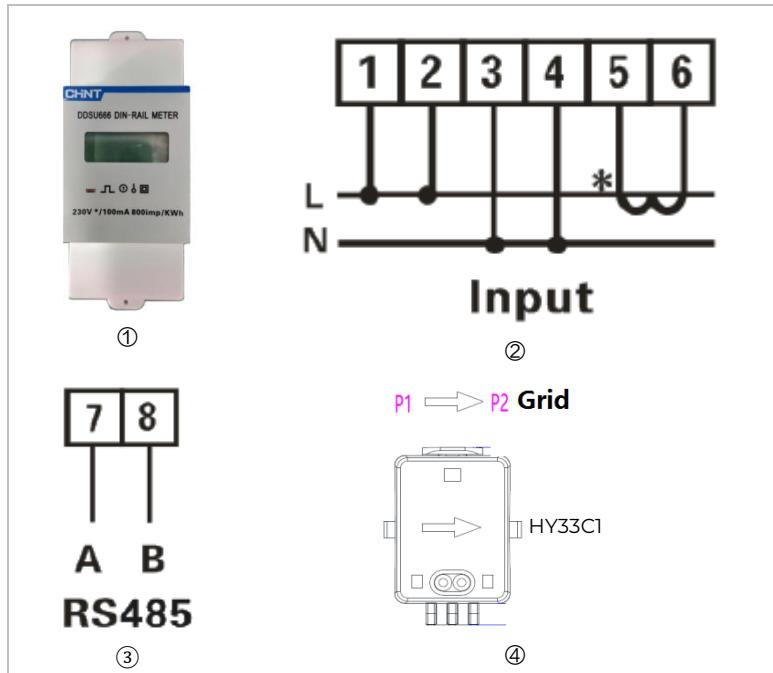

Figure 5-24 Meter
PIN6 and PIN7 of COM are used for meter communication, the electricity meter is shown in the Figure 5-24①, PIN6 and PIN7 correspond to 7,8 respectively on the electricity meter, as shown in Figure 5-24③.
The connection mode is shown in Figure 5-24②. The 1/2 and 3/4 on the electricity meter are connected to voltage signals L and N respectively. And the current needs to be connected through the current transformer 6, 7 correspond to the current transformer.
NOTE: The direction of the current transformer is shown in Figure 5-24④.
1. For the Single-phase limit setting, the current sensor must be properly connected to the L line on the meter. The meter wiring is shown in Figure 5-24. In addition, refer to 6.3.2(3) for feed-in limit settings.